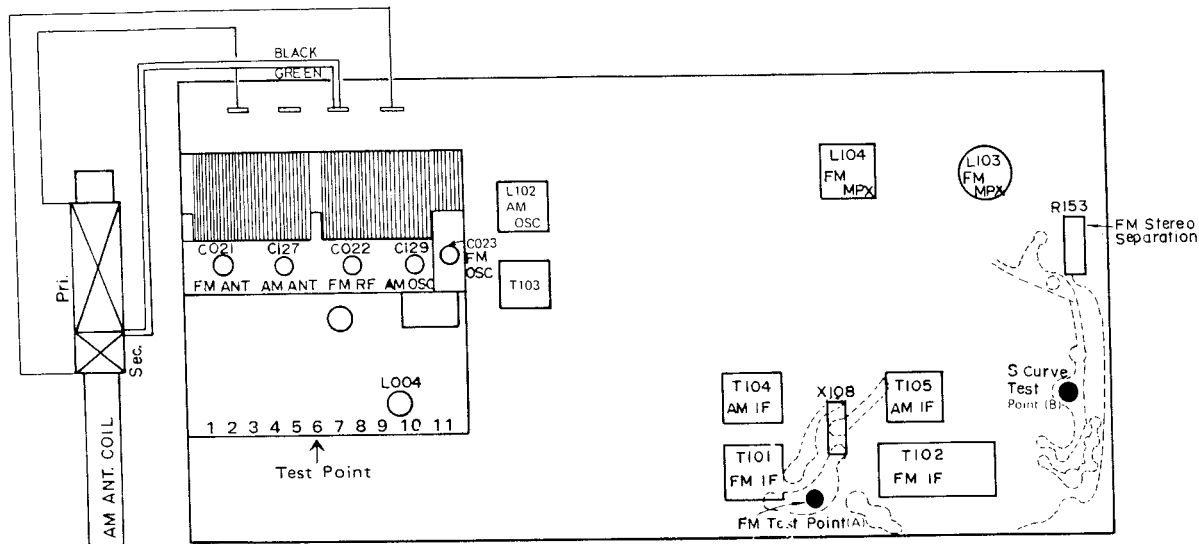

Fig. 10
* Refer to Fig. 10 for Adjustment Point.